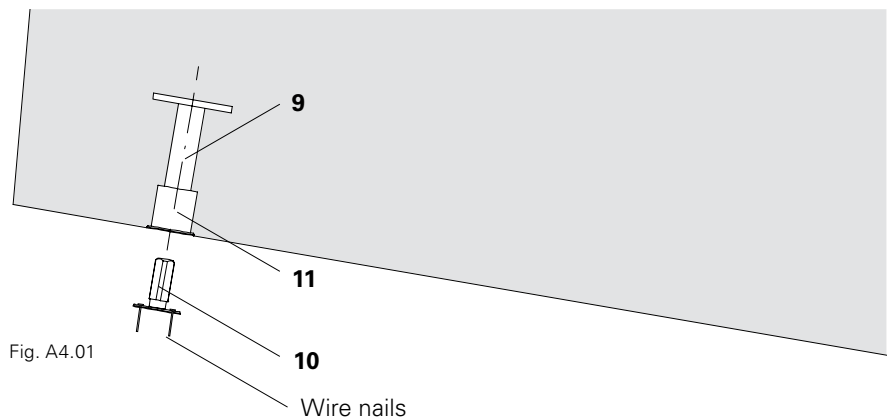

Fig. A4.01
2. Screw out the Anchor Positioning Stud M24 (10) from the Anchor Sleeve by means of an Allen key (SW 14) (Fig. A4.01)